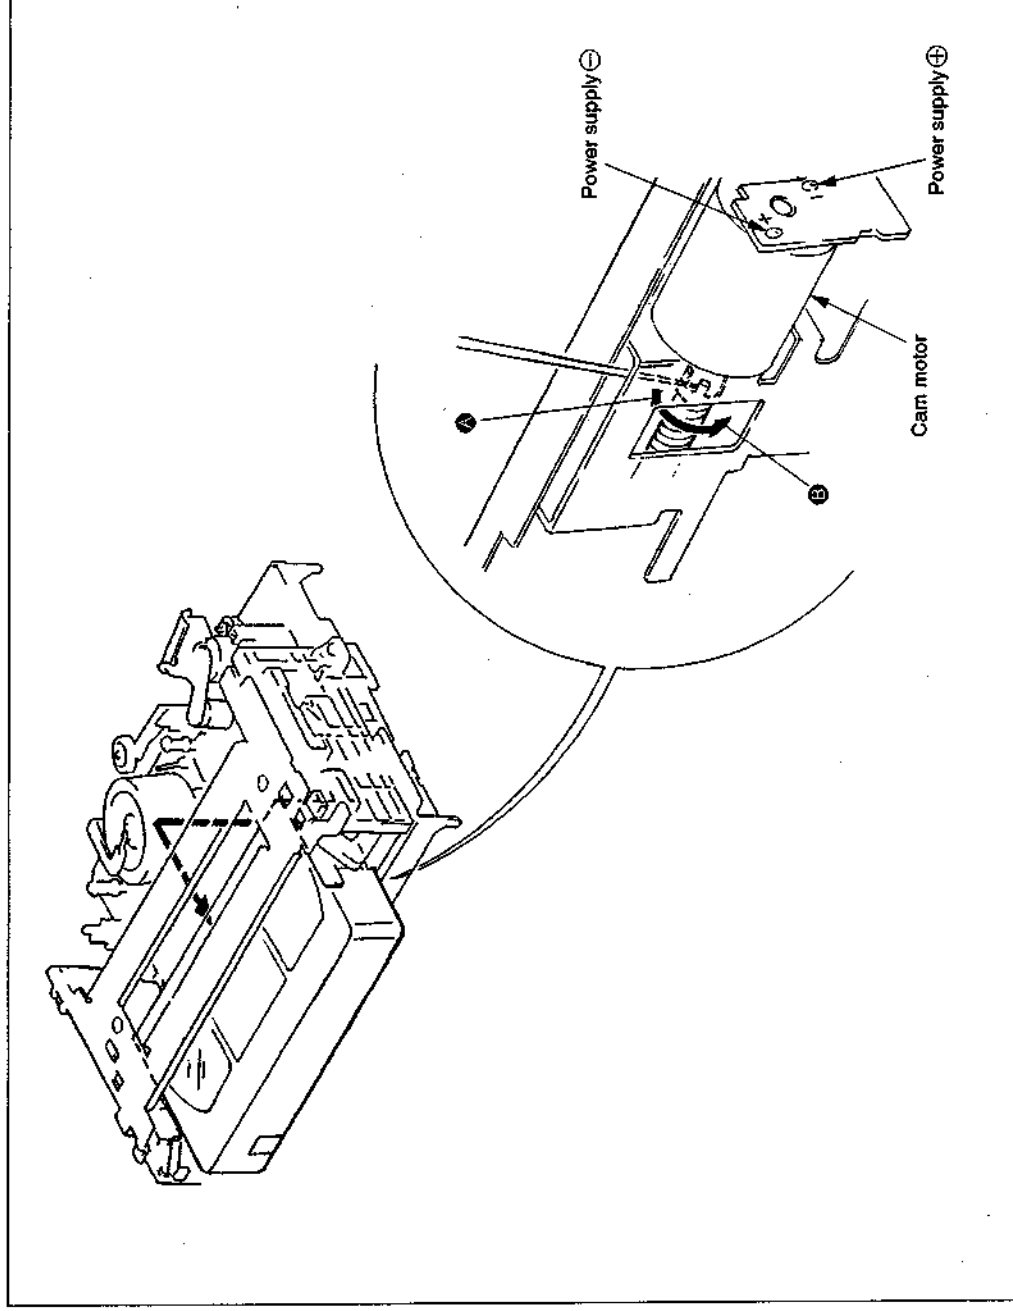

Fig. 1-2
(Figs. 1-2 and 1-3)
- 4) Check that tape is not loosened completely, and apply approx. +9 V (300 mA) to contrary polarities of cam motor with regulated DC power supply. (Fig. 1-2)